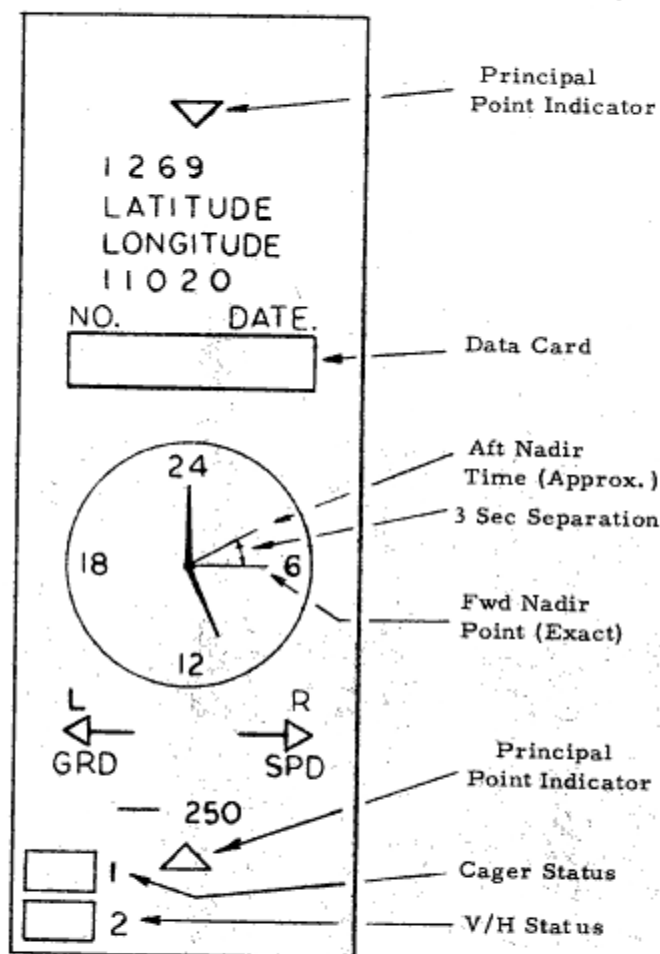

Figure 1-11. Data Recording On Film
- 1-34. Vehicle ground speed, latitude, longitude, Greenwich Mean Time, and the mission flight number are recorded for each frame. See Figure 1-11. A caged status indication is also provided for, indicating whether the Q-Bay package was caged or uncaged for any particular frame.